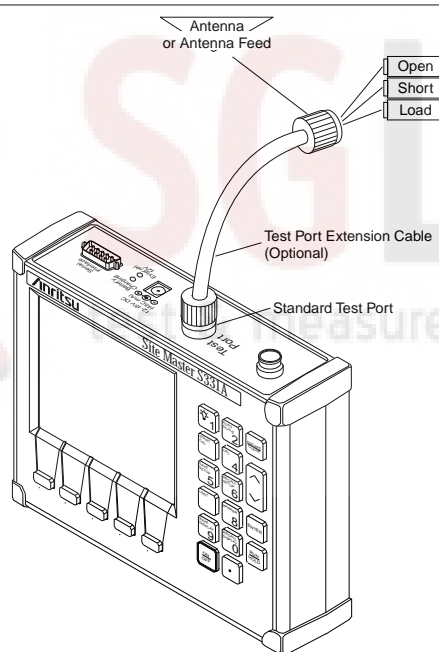

Figure 2-9. Measurement/Calibration Test Setup
“Connect LOAD, Press ENTER” instructions that appear in the message area. Connect the respective Open, Short, and Load component to the end of the Test Port Extension Cable (Figure 2-9) prior to pressing ENTER.
- Step 7.** Perform a measurement calibration, using the **START CAL** key. Select **CAL A** or **CAL B**. Follow the ensuing “Connect OPEN, Press ENTER,” “Connect SHORT, Press ENTER,” and “Connect LOAD, Press ENTER” instructions that appear in the message area. Connect the respective Open, Short, and Load component to the end of the Test Port Extension Cable (Figure 2-9, page 2-27) prior to pressing **ENTER**.